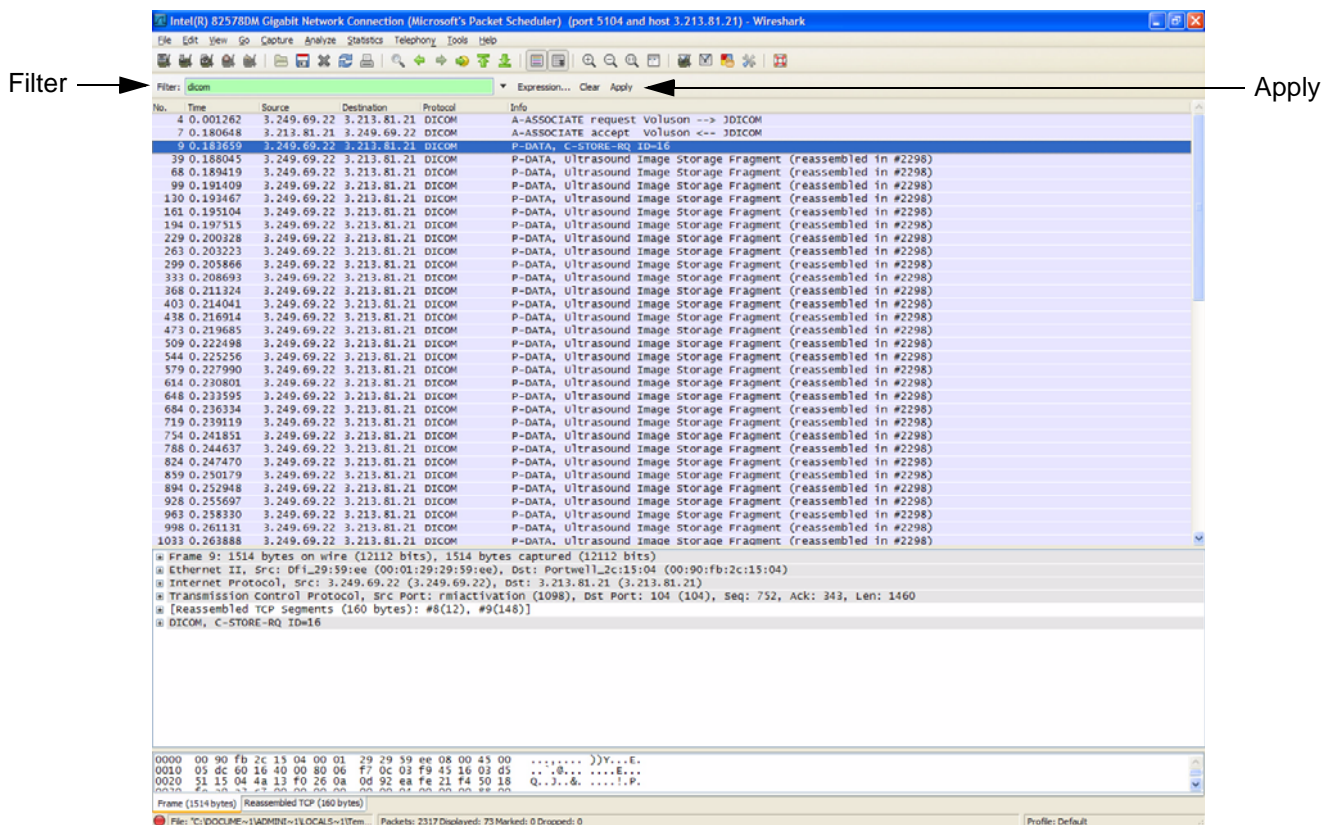

Figure 7-9 Filter: dicom
- 1.) Click on CAPTURE FILTER (see: Figure 7-9 on page 7-9).